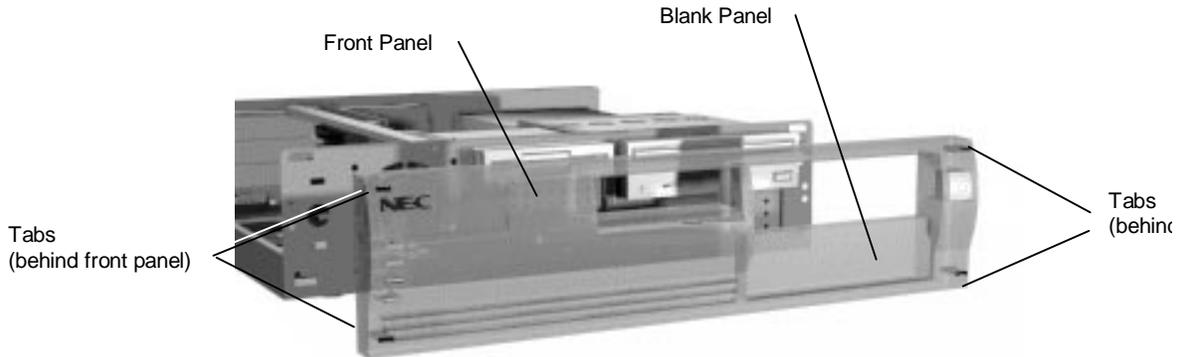

Figure 3-25 *Aligning the Front Panel*
2. Evenly press the front panel into position until the tabs lock the panel in place (see Figure 3-25).